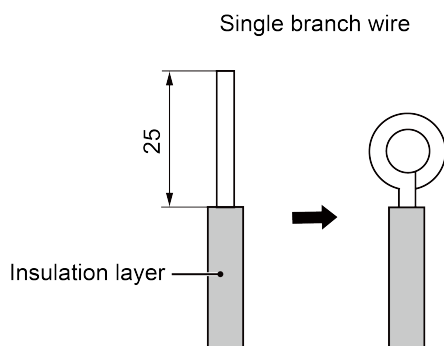

Fig.5.1.1
(1) The connection of wire (as shown in Fig.5.1.1).